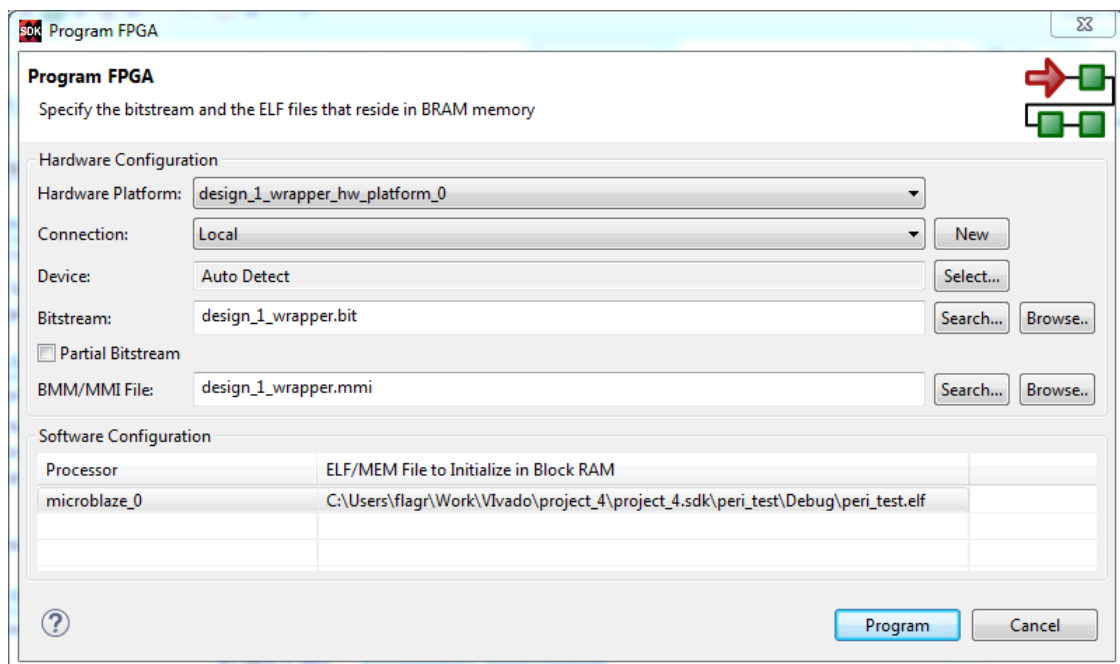

Figure 42: Project Explorer with the new peri_test application
2. In the Program FPGA dialog box, make sure to change the **bootloop** (does nothing / used in debugging) in Software Configuration to point to the right executable, as shown in Figure 42. Click **Program**.